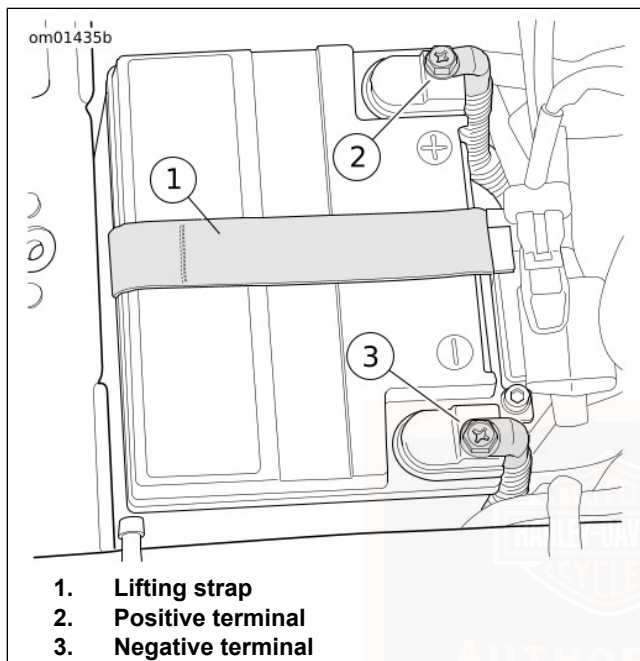

Figure 82. Battery Compartment
10. See Figure 82. Disconnect both battery cables, negative battery cable first.
3. See Figure 82. Place the battery into the battery tray, terminal side forward.